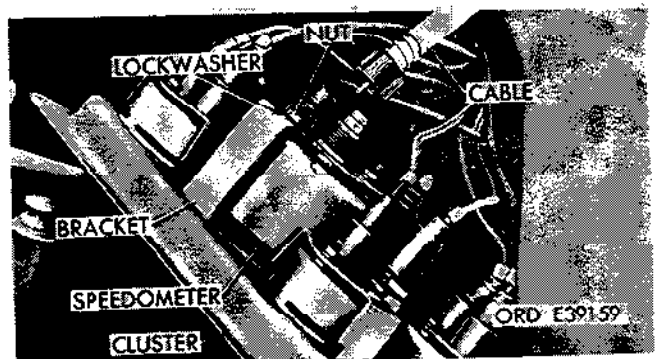

Figure 2-270. Remove speedometer.
(1) Remove instrument cluster (para 2-101) and disconnect cable from housing assembly by loosening nut securing cable housing to speedometer housing. Pull cable from speedometer.
(2) Remove two nuts, lockwashers, and bracket securing speedometer to instrument cluster and remove speedometer (fig. 2-270).